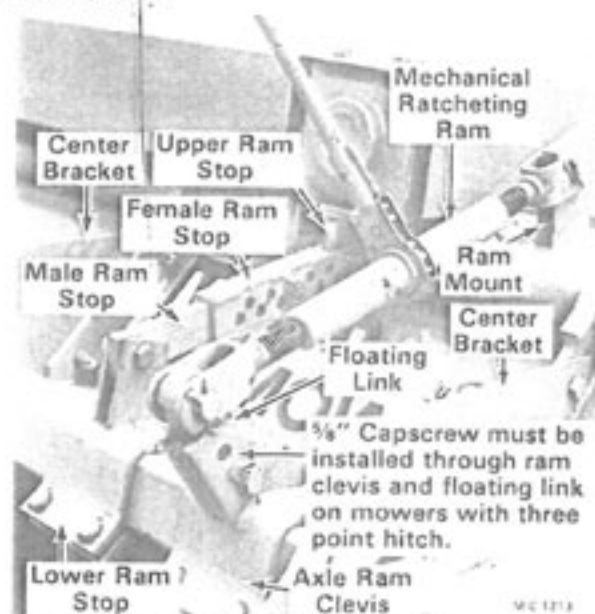

Figure 9
6. Mount the axle ram clevis on the axle so it aligns with the ram mount, see Figure 9. Install a mechanical ratcheting or hydraulic ram (to be supplied by the customer). A mechanical ratcheting ram is available, order M-C Part No. 001 8985.
7. Remove the plate under the gear box and replace it with the upper ram stop, see Figure 9.
8. Install the lower ram stop. Be sure it is aligned with the upper ram stop. Install the female and male ram stops as shown in Figure 9. Secure them with  $\frac{5}{8}$ -11 x  $2\frac{1}{2}$ " (Grade 5) hex-head capscrews, lockwashers and hex-nuts.
**IMPORTANT:** On lift type mowers secure the axle ram clevis floating link so that the axle cannot rotate when the mower is lifted. Use a  $\frac{3}{8}$ -11 x 2 $\frac{1}{2}$ " (Grade 5) hex-head capscrew, lockwasher and hex nut, see Figure 9.